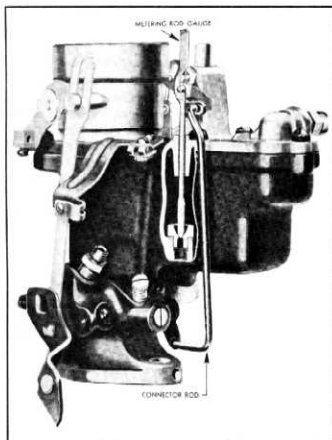

Fig. 85—Checking Throttle Connecting Rod with Metering Rod Gauge
NOTE: Make sure gauge seats in metering rod jet (fig. 85).
7. Press down on the pump arm until the pivot pin rests firmly on top of the gauge (fig. 85).